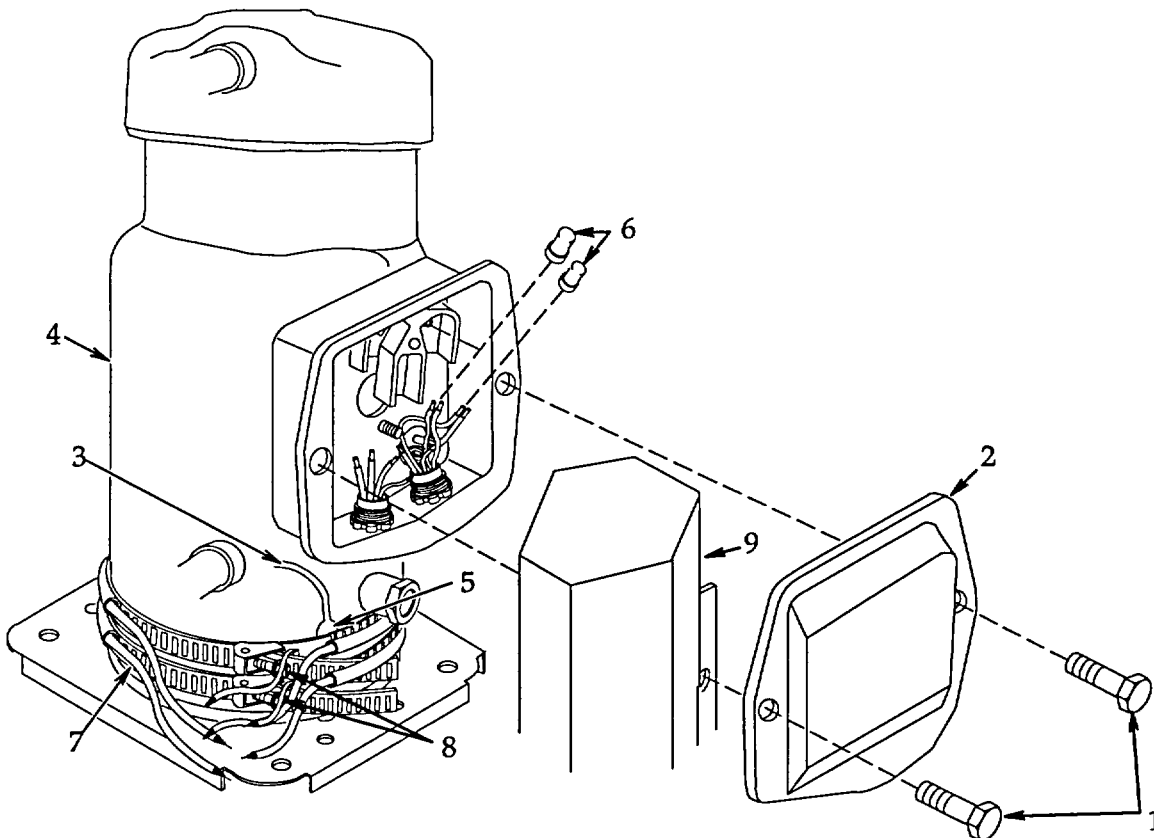

Figure 4-49. Crankcase Temperature Sensor (RT4) (FDECU-2 ONLY).
a. **Removal.** See figure 4-49.
b. **Installation.** See figure 4-49.